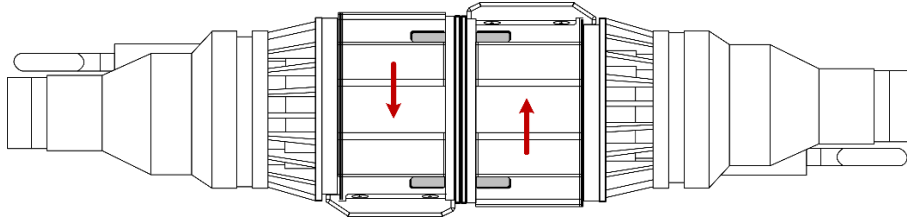
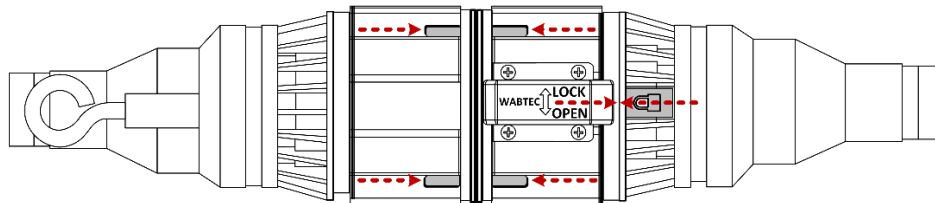

Figure 26: Connectors Mated and in the Lock Position
Figure 27: Rotating Indicator Aligns with Stationary Indicator when Connectors are in the Lock Position
5. Turn the Rotatable Coupling Ring on each Inline Connector in the direction of the arrows in Figure 26 so that both Connectors will be in the Lock position. You will hear two audible clicks, one for each Latch Pin, as the Inline Connectors enter the Lock position.
6. Verify that the Reflective Indicators are aligned to one another as illustrated in Figure 26. Turning the mated cables to the position depicted in Figure 27, note that in the Lock position the Stationary Indicator aligns with the Rotating Indicator and the Reflective Indicators on this side are also aligned.